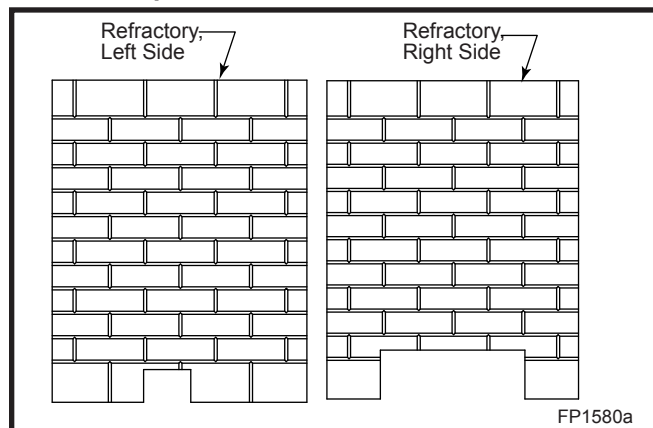

Fig. 41 Ceramic refractory panels.
1. Using a Robertson screwdriver, remove the two (2) nuts holding each fettle to the burner assembly.
2. Identify the side refractory. The refractory with the small cut out at the bottom must be installed on the side where the plumbing for the pilot and manifold are. The other side refractory has a larger cut out at the bottom. This is designed to allow the opening for the fresh air coming to the combustion chamber unobstructed. (Fig. 41)